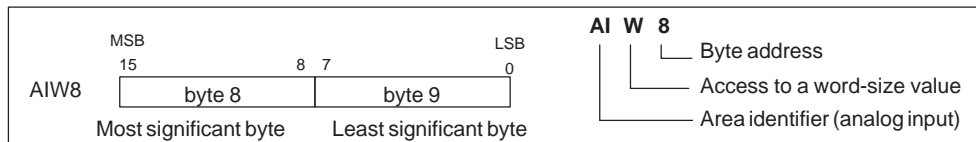

Figure 5-5 Accessing an Analog Input
The S7-200 converts a real-world, analog value (such as temperature or voltage) into a word-length (16-bit) digital value. You access these values by the area identifier (AI), size of the data (W), and the starting byte address. Since analog inputs are words and always start on even-number bytes (such as 0, 2, or 4), you access them with even-number byte addresses (such as AIW0, AIW2, or AIW4), as shown in Figure 5-5. Analog input values are read-only values.